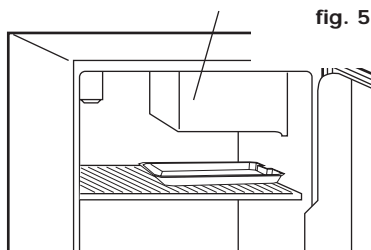

fig. 5
- While defrosting, water will accumulate in the drip tray. The drip tray may also need to be emptied during the defrost process. Do not leave unattended. (see Fig. 5)